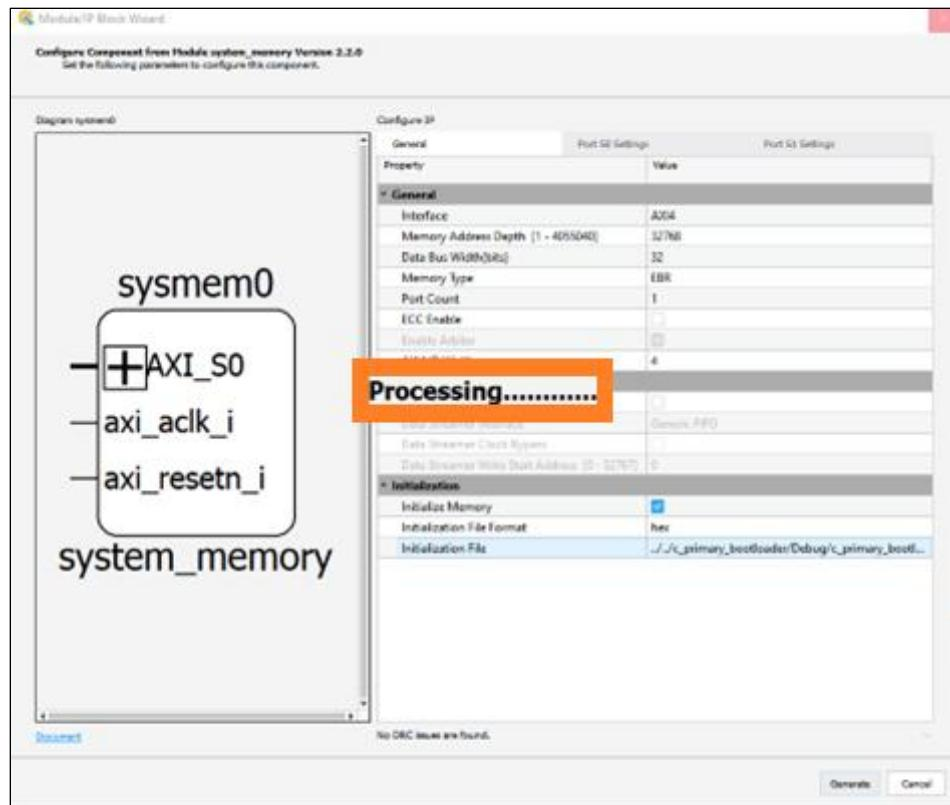

Figure 8.43. Click Generate
8. Click **Generate** on the bottom-right corner of the IP Block Wizard as shown in Figure 8.43.